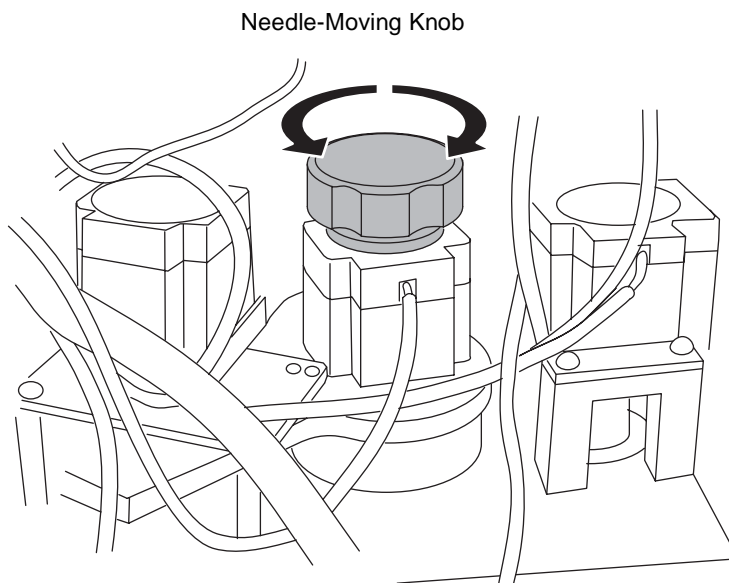

Figure 4-13 Manually Moving the Needle
- g. Find the needle-moving knob on the left side of the system (Figure 4-13). When the wizard needle no longer moves, turn the knob clockwise to lower it or counterclockwise to raise it. It should remain approximately half-way between its highest and lowest positions.